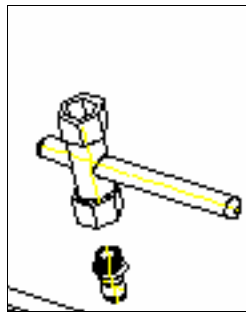

Figure 2: Checking Non Return Valve (NRV) With 12 X 13 Box Spanner
- C. After trying both A & B Solutions, if you still face the problem then check for the Non Return Valve (NRV). NRV might be leaking. For testing, fill the full air in the core holder and then put some water near air valve. The air bubbles will start coming near and around the NRV. Then, immediate replacement is needed. (Figure 2.)